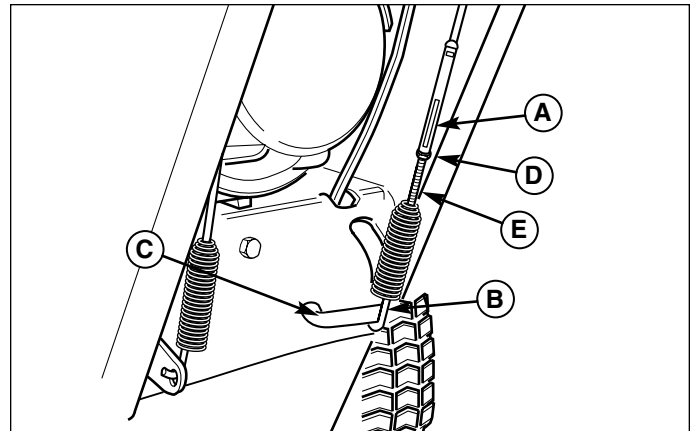

Figure 18. Auger Drive Adjustment
1. With the drive lever released, the hook (B, Figure 18) should barely touch the lever (C) without raising it. There can be a maximum 1/32" clearance as shown.